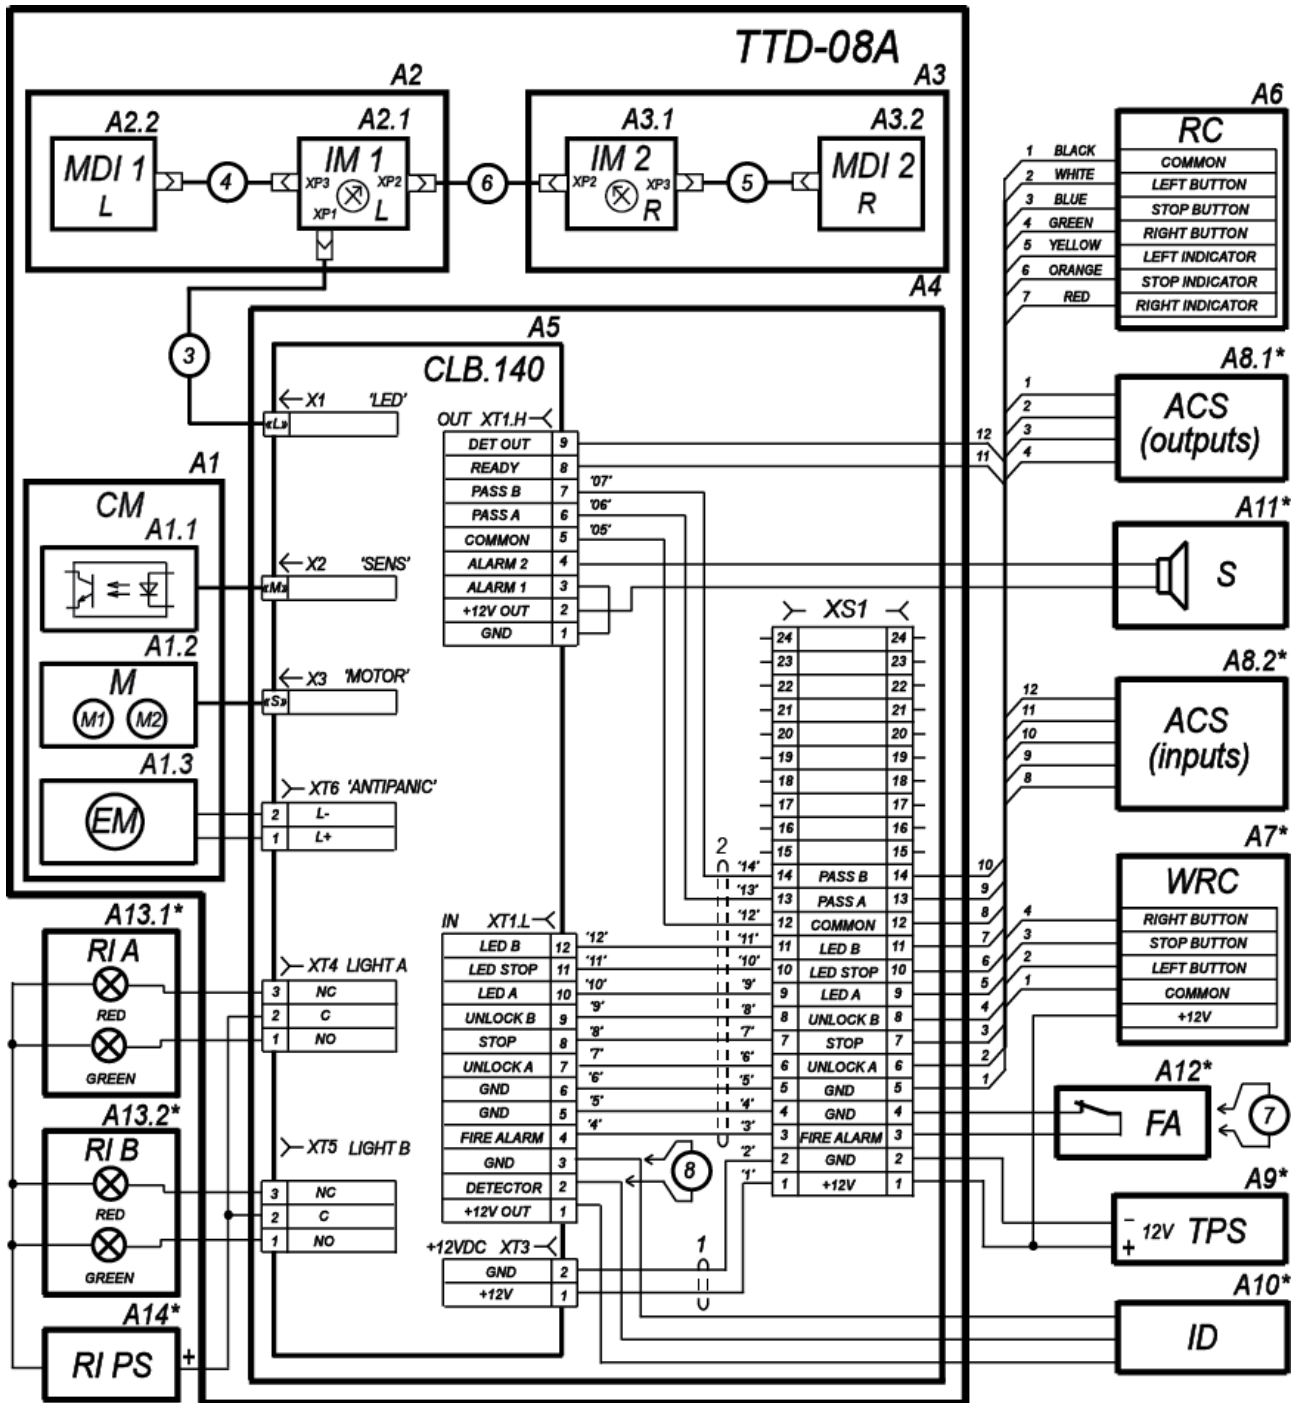
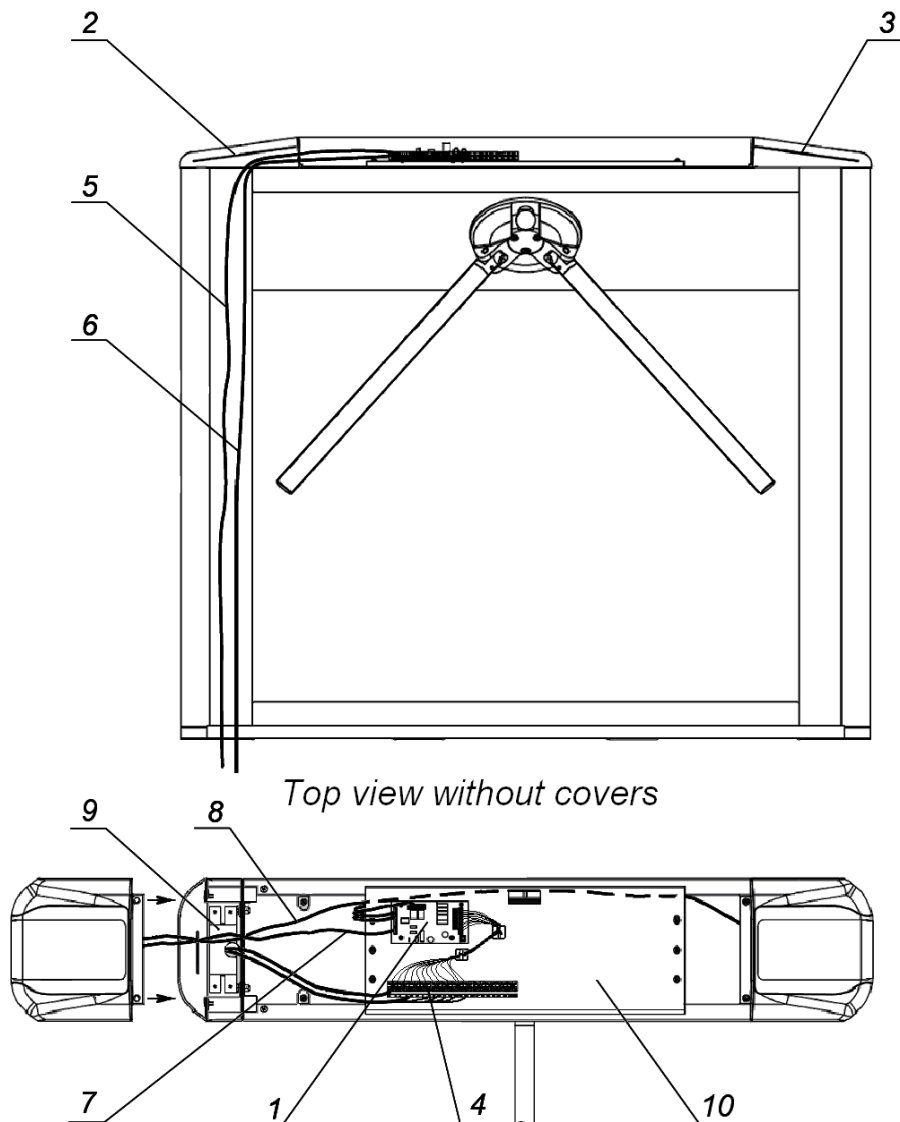
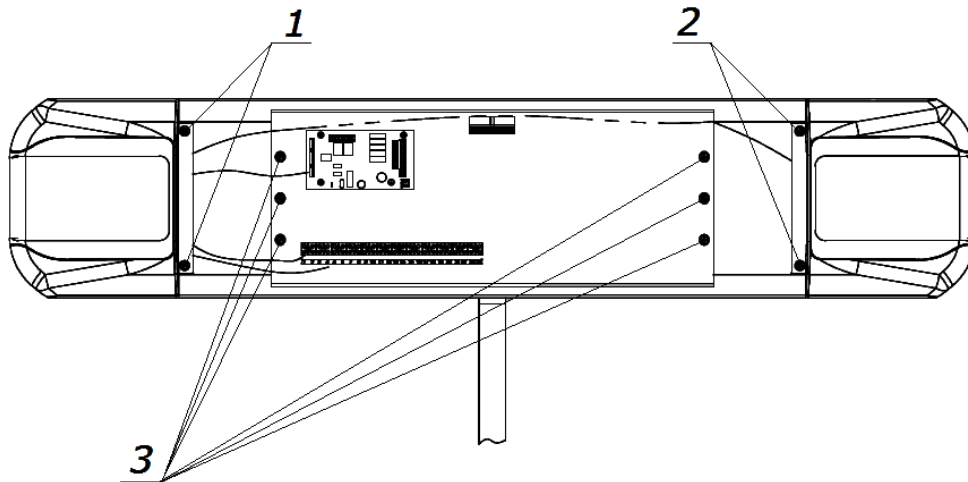

Figure 12. Connection layout of the TTD-08A turnstile and additional equipment¹
Figure 14. Cable routing inside the housing
Figure 15. Layout of fixing screws
4. If it is necessary to lay cables under the floor surface, prepare a cable duct in the floor so that it leads to the area where these cables enter the turnstile housing. Cable routing inside the turnstile housing is shown in Fig. 14.
6. Remove the turnstile housing top cover (3) (ref. Section 6).
7. Remove the turnstile housing side panel (7), assembled with a cover (9). For this purpose:
- Loosen two screws (2 in Fig. 15).
- Move the side panel away from the housing and disconnect the cable, connecting indication boards (8 on Fig. 14), from indication board IM2, located under the cover.
8. Remove the turnstile housing side panel (6), assembled with a cover (8). For this purpose:
- Loosen two screws (1 in Fig. 15).
- Move the side panel away from the housing and disconnect the cable that connects indication boards (8 in Fig. 14) as well as the indication cable, running from the control board (7 in Fig. 14), from indication board IM1 (located under the top cover).
10. Connect the power cable (13) to the **XS1** remote terminal block (ref. Fig. 12).
11. Connect the cable of the RC panel (12) to the **XS1** remote terminal block.
13. If needed, install the ACS controller in the place provided for this purpose. If the ACS controller dimensions do not exceed 250×130×35 mm, it can be installed inside the turnstile housing under the top cover on the main bracket (10 in Fig. 14); to do this, use PCB pillars on self-adhesive cable tie mounts from the delivery set.
14. If needed, install access card readers on special brackets at the ends of the housing (9 in Fig. 14).
- 7 – indication cable from the control board to IM1 (3 on Fig. 12);
- 8 – cable from IM1 to IM2 (6 on Fig. 12); 9 – bracket for reader installation;
4. Remove the turnstile top cover (3) from the turnstile housing as described in Section 6 and place it on a flat steady surface.
5. To access the rotary group of the turnstile's barrier arms, remove the bracket with the control board and remote terminal block. For this purpose: unscrew 6 screws (3 on Fig. 15), which fix the bracket on the turnstile housing, and carefully move the bracket aside without damaging connected cables.